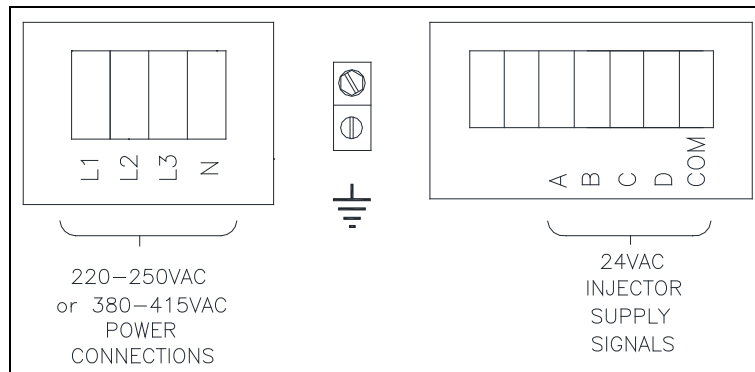

Figure 1-5: Electrical Connections and Chemical Supply Signals
- 1.6.1.2 Remove the rear panel near the upper left corner of the washer and locate the power terminal block near the back of the control compartment. Connections are as shown in Figure 1-5.
The washer control may be programmed to send six 24V output signals for a chemical injection system of up to four chemical sources. There are convenient electrical connection points for the injection pumps in the rear of the machine, as shown in Figure 1-5. The four independent pumps can be controlled through the signals A, B, C and D. The COM shown in Figure 1-5 is the common or return for these injection signals. For the injection sources, program codes 0 through 6 and their respective terminal block connections and combinations are as shown in Table 3.